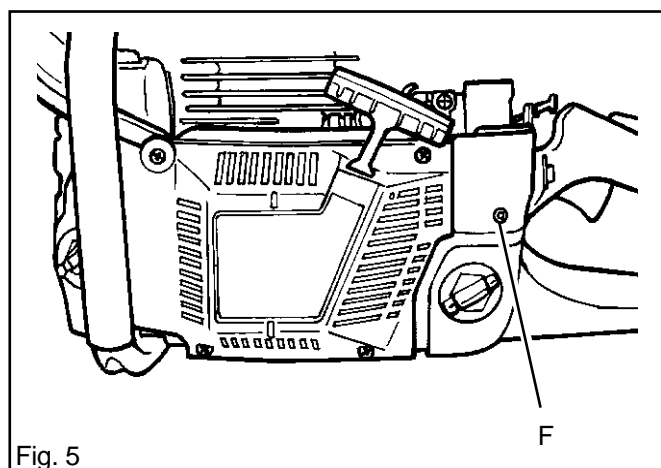

Fig. 5
8. Refit the bolt (F) on the flywheel side. See fig. 5. Tighten to 6 Nm.